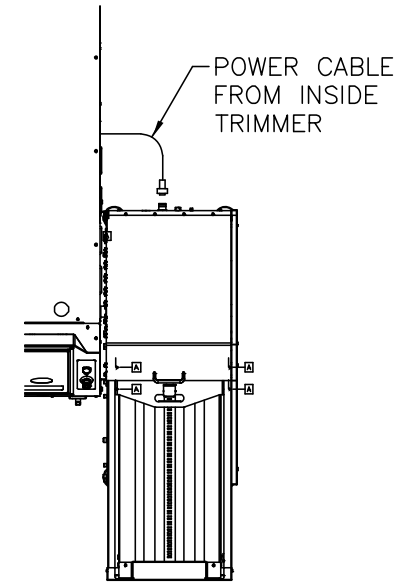

Figure 2-32. Power Cable Connection
3. Connect the power cable as shown in Figure 2-32.